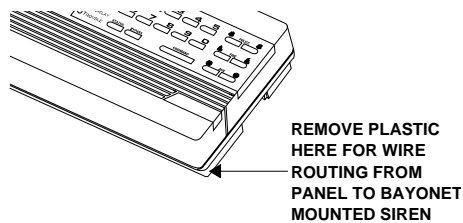

Figure 5. Removing Panel Plastic for Wire Entry
- 3) Using a needle-nose pliers, remove the plastic at the right-rear side of the Panel for wire entry (see Figure 5).